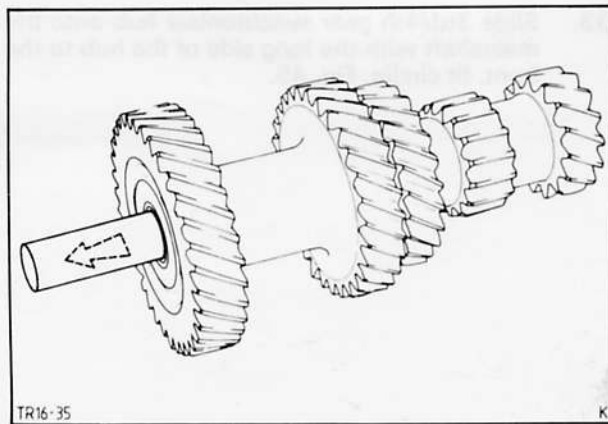

Fig. 48. Remove dummy shaft from countershaft gear train
37. Remove dummy shaft from countershaft gear train, Fig. 48, remove the 19 or 21 needle rollers with the spacer shims (2 each) on either side of the gear train. Remove spacer tube.